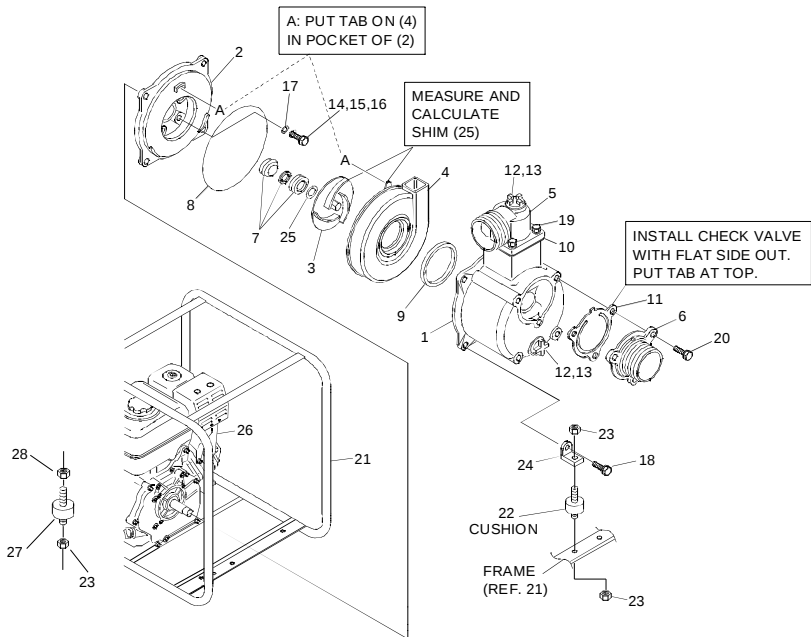

Figure 4-6: Removal of Internal Components
- Refer to Figure 4-6 for location of parts used on Models TE3-50V and TE3-80V.
- A. Remove three bolts (20), check valve (11), and suction case (6).
- B. Discard damaged check valve (11).
- C. Place the flat side of the replacement check valve (11) against the flat side of the suction case (6). Position the check valve (11) with the valve pivot point in the top (zero degree position).
- D. Align bolt holes in replacement check valve (11) and suction case (6). (Refer to Figure 4-6 for the correct orientation).
- E. Attach suction case (6) to pump casing (1) using bolts (20)